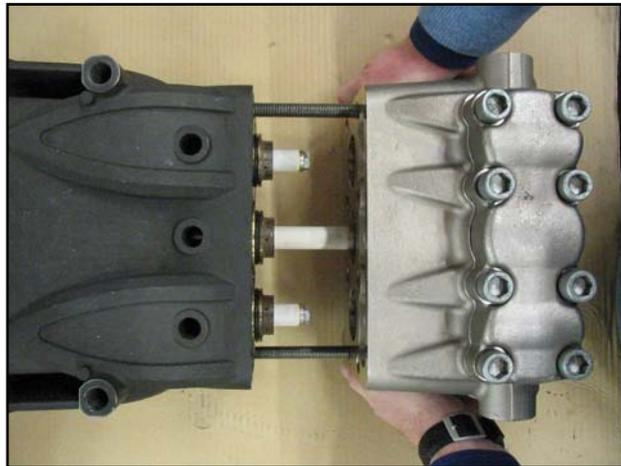

fig. 33
- B) Lubricate components ②③⑤ with OCILIS silicone grease code 12001600; this operation is also deemed necessary to facilitate adjustment of the lip seal on the piston.
- 2. Using two screws – service pins (code 27726000), fasten the casing as indicated in fig. 33. Position the complete head, making sure that it is centred only on the central piston.